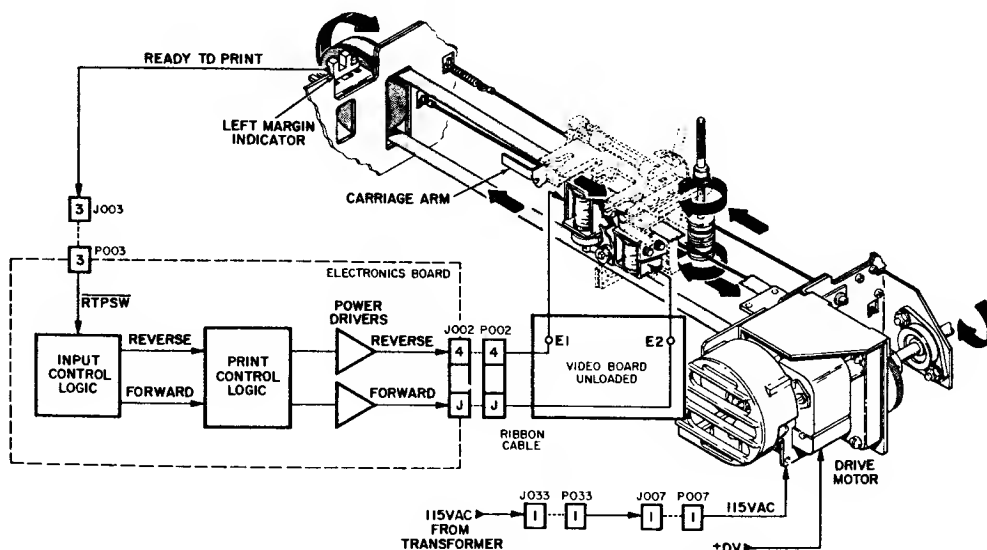

Figure 2-5. CARRIAGE AND RIBBON MOVEMENT
2.6 CARRIAGE AND RIBBON MOVEMENT (Figure 2-5)